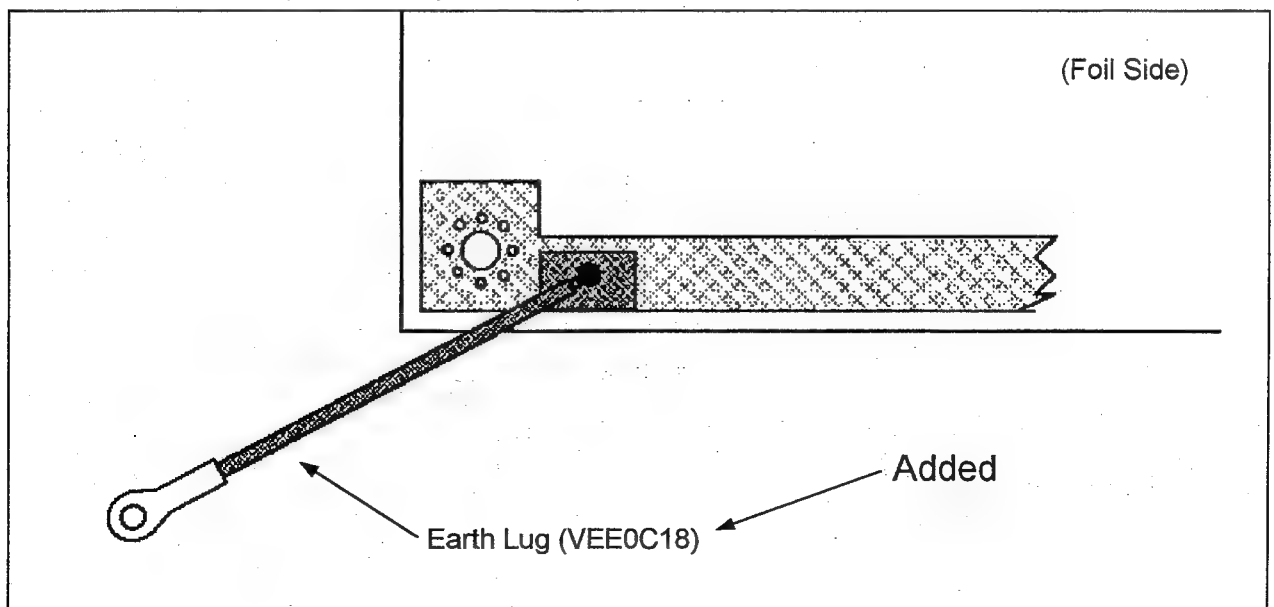

Fig. 10
- 3). Earth lug is added to the foil side as shown in figure 10.